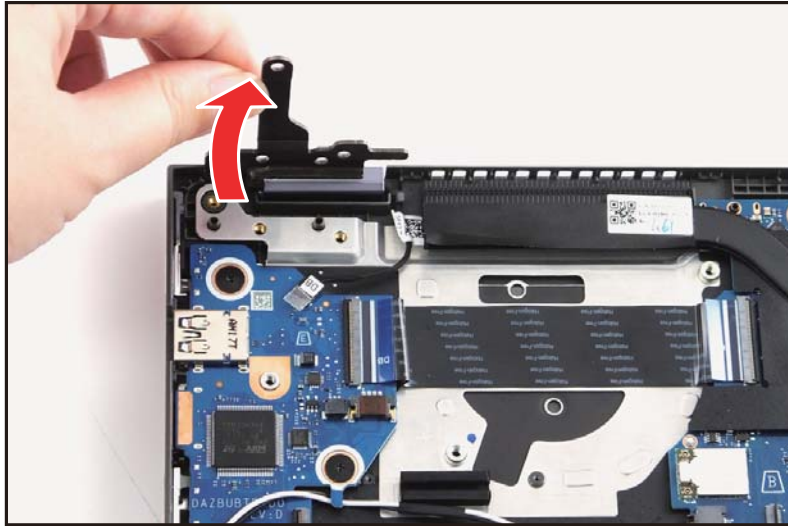

Figure 1-25. USB Board Removal
3. Close the top assembly and lift the left side of LCD hinge until it is fully extended (Figure 1-25).